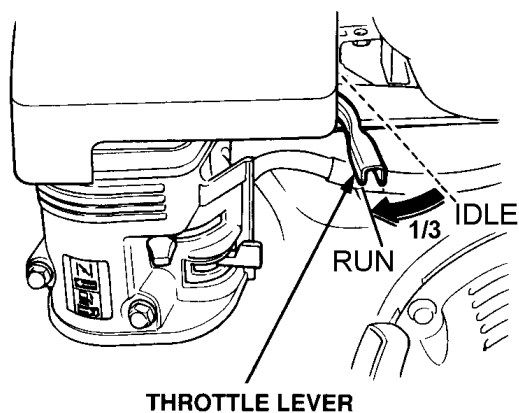

Figure 7. Throttle Lever (1/3 Start Position)
2. Move the throttle lever (See Figure 7) away from the slow position, about 1/3 of the way toward the fast position.